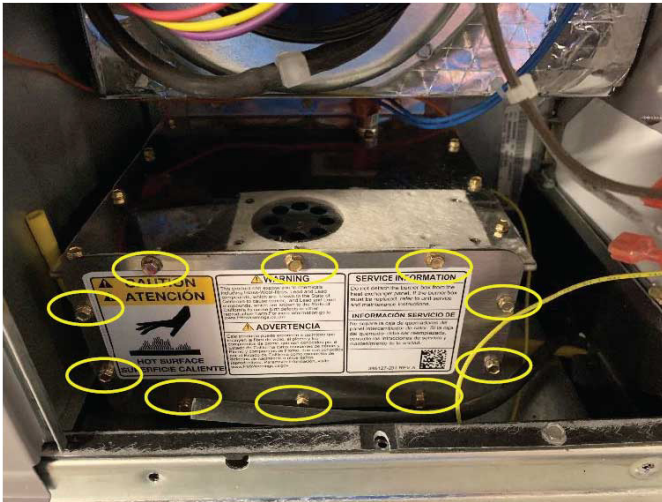

Fig. 12 – Installing Burner Box Cover Screws
9. Re-install the Burner Box Front Cover using the 10 screws shown in Fig. 12.
10. Re-install the Burner Box Front Cover using the 10 screws shown in Fig. 12.